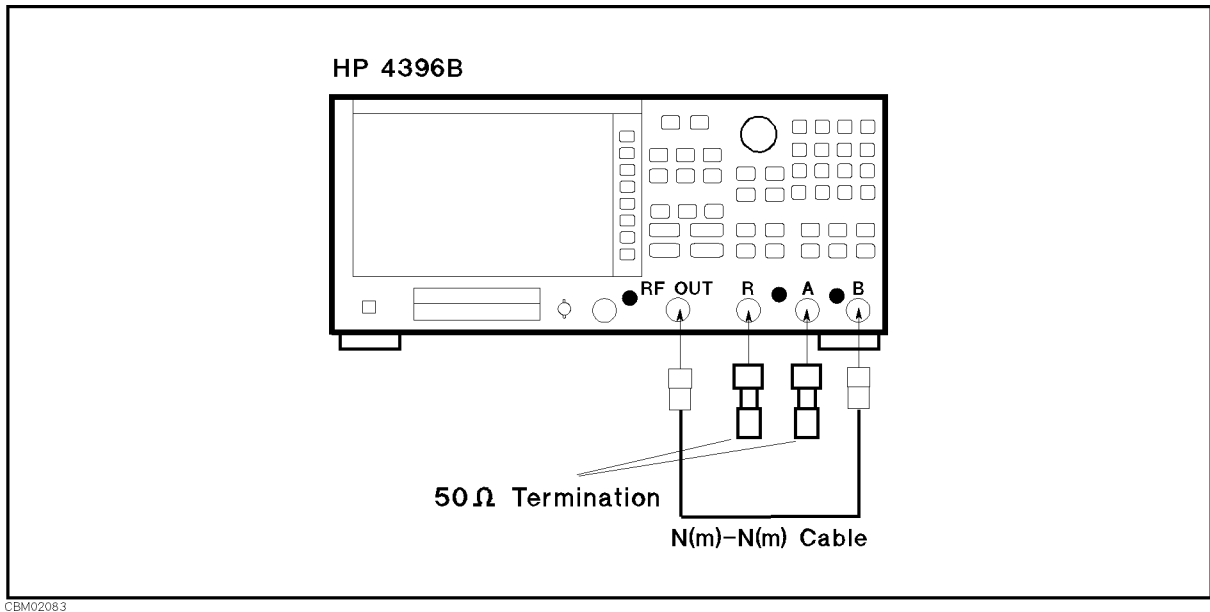

Figure 2-9. Input Crosstalk Test Setup 3
- a. Connect the test equipment as shown in Figure 2-9.